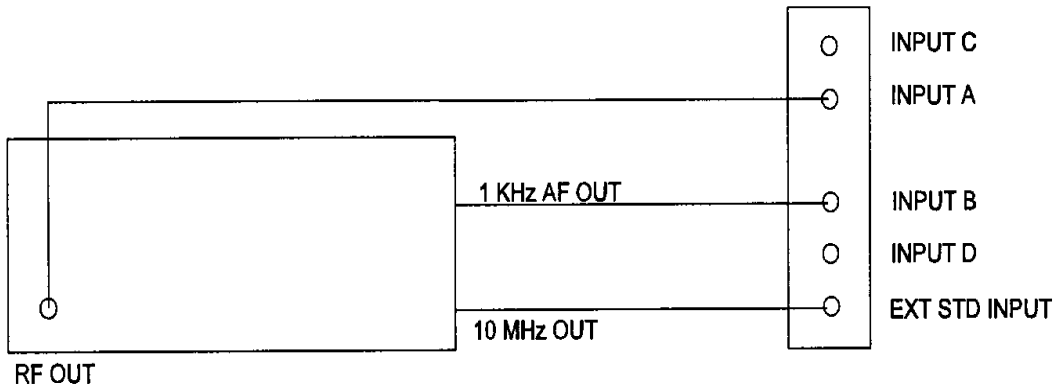

Figure 4-7, Totalize A by B Test Configuration
4.1.10.2 Connect the 2251A to the signal generator as shown in **Figure 4-7**. Set the signal generator to 10 MHz, 0 dBm. Verify that the counters measurement result is 10000 ± 1 .